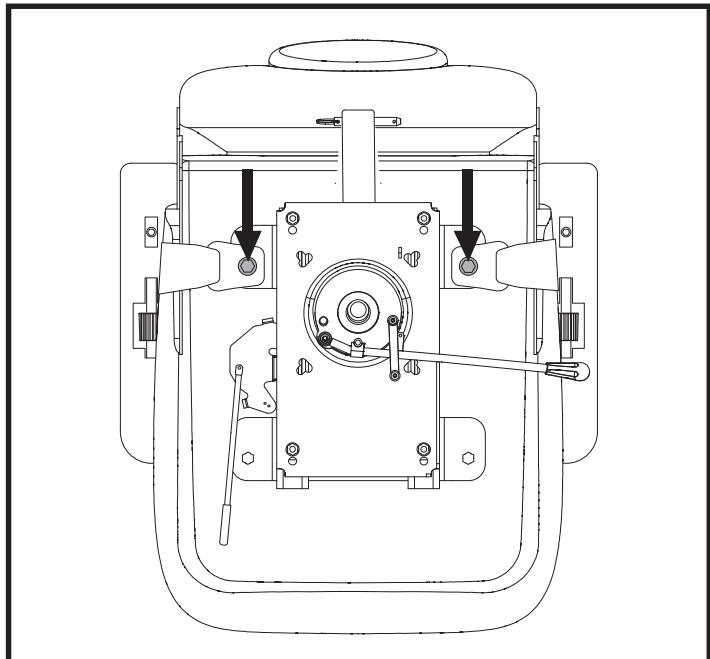

Figure 21. Positioning Belt Bolts
2. Place the seat upside down so that you can see the bottom of the seat base. See **figure 21**.
1. Insert the metal tab on the right side of the belt into the plastic housing on the opposite strap until you hear a "click." See figure 21.